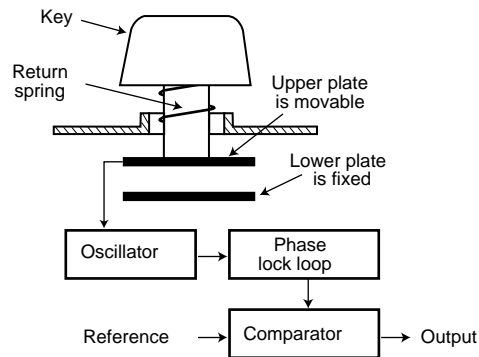

FIG. 9.6 A capacitive key switch.
*Capacitive* switches are the only nonmechanical type of switch in use today (see Figure 9.6). These are the Cadillac of key switches. They are much more expensive than the more common mechanical rubber dome, but they also are more resistant to dirt and corrosion and offer the highest-quality tactile feedback of any type of switch.